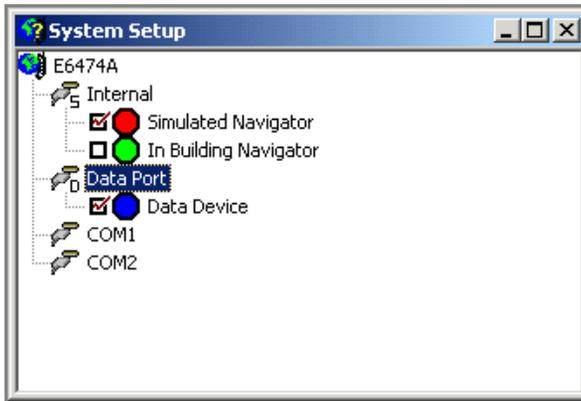

Figure 45 Data device added
- 2 Choose **Add Device** from the pop-up menu. After you add the data device, it is enabled, as indicated by the check mark next to Data Device in Figure 45 on page 91.